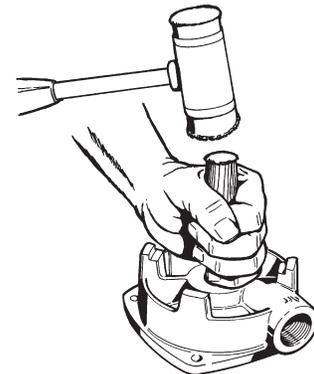

Figure 4-6
10. Remove the seat portion of the seal, Refer to Figure 4-6.